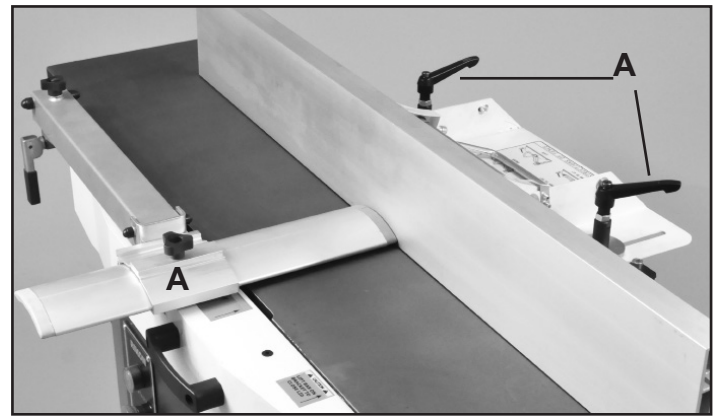

FIG. 45
1. Secure the jointer fence and cutterhead guard in place with their locking handles (#256, 259 & 375, FIG. 45, A).